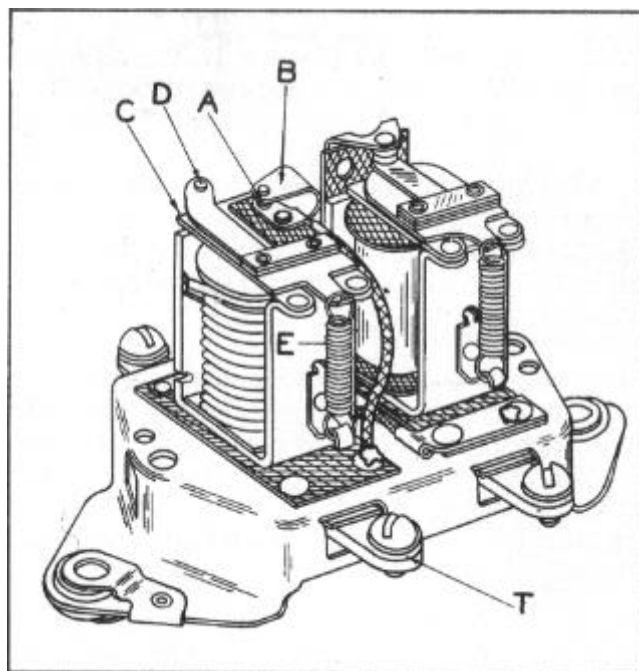

FIGURE 6
When the ignition switch is turned on the circuit is completed from the ignition switch, through the bulb, to the "T" terminal of the voltage regulator, Figure 6 to the insulated contact points (A), to the grounded strap (B) of the cut-out relay. As the engine is started and generator speed is increased to a car speed of approximately 10 miles per hour, the generator develops sufficient voltage to pull down the cut-out armature (C), closing the main contact points (D), opening the insulated points (A) causing the light to go out.